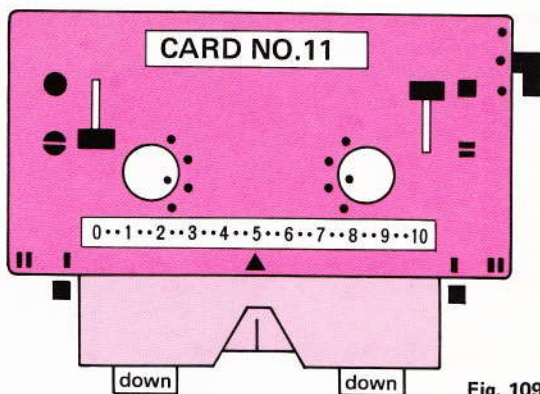

Fig. 109
- Set carriage as in fig. 109. Take the yarn out of the yarn-guides and leave it at the end of the needle bed,